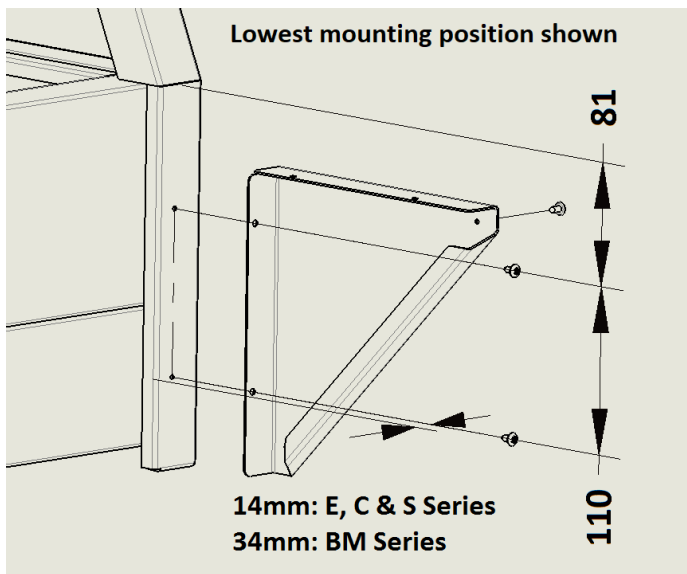

Figure 1 - Mounting the Brackets
2. Refer to Figure 1 overleaf and mark out the positions for the holes on the side of the food bar that you have decided to install the tray race, at your desired height. In Figure 1, the dimensions show the tray in the lowest position.